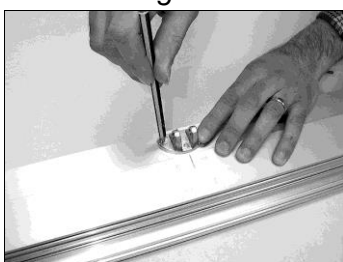

Fig. 4
- D. Line up the front bracket along the centre line on the moveable part of the frame and mark out the three holes required for the screws (Fig. 4).
- D. Line up the front bracket along the centre line on the fixed part of the frame and mark out the three holes required for the screws (Fig. 4).